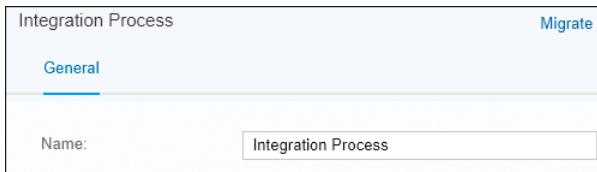
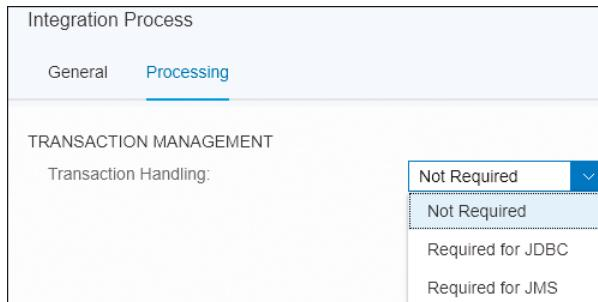

Figure 6.64 Migrating an Integration Process
Figure 6.67 New Feature Transaction Management in Upgraded Process
4. Click **Migrate** (Figure 6.64).
Component version 1.1 of the **Integration Process** element has a new feature called **Transaction Management**, as shown in Figure 6.67 (compare with Figure 6.64, which shows the **Integration Process** component prior to migration). For more information about this feature, see Chapter 5, Section 5.4.2.